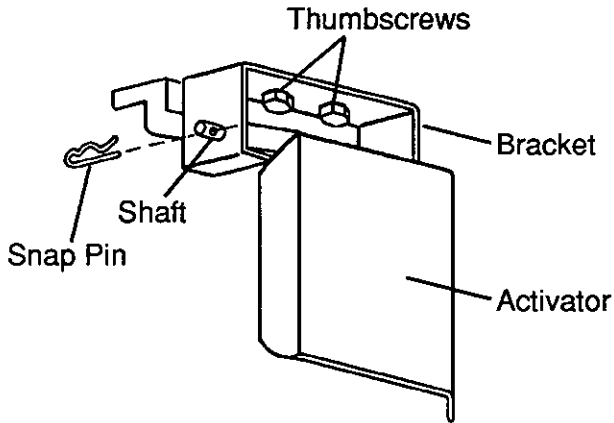

Fig. 19
- 3) Remove the Bin Control Bracket Assembly. See Fig. 19.